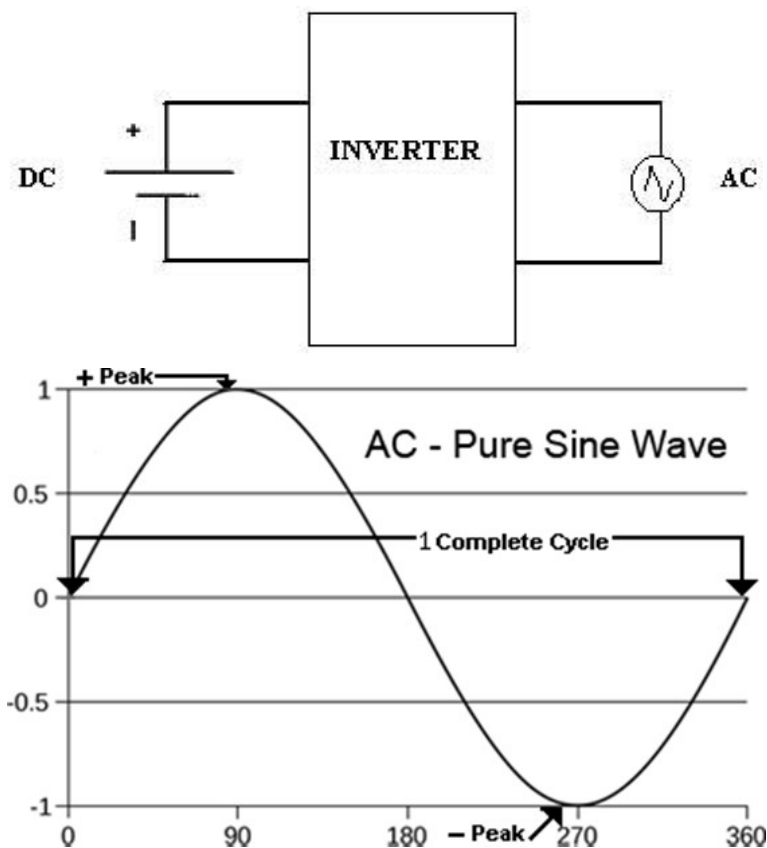

Fig. 2.3: Shows the waveforms and circuits for Alternating Current and Direct Current.
AC is defined by its frequency. In India, the frequency of Alternating Current (AC) is 50 Hertz, meaning it completes 50 cycles every second. In countries like the USA and Canada, the AC frequency is 60 Hertz, as shown in Fig. 2.3.